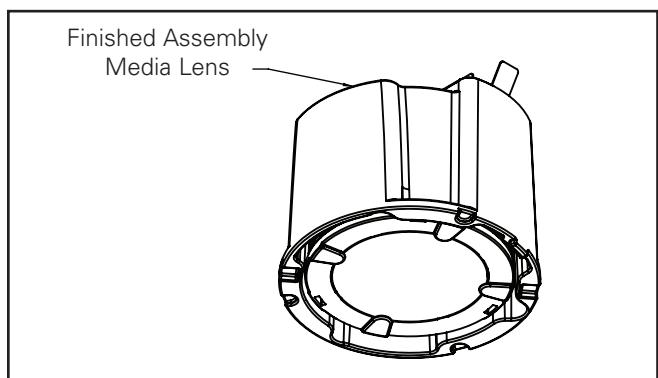

Figure 8
7. To install optic and media/film assembly to module follow steps in "Optic Assembly Replacement/ Installation "(Figure 8 & 10)